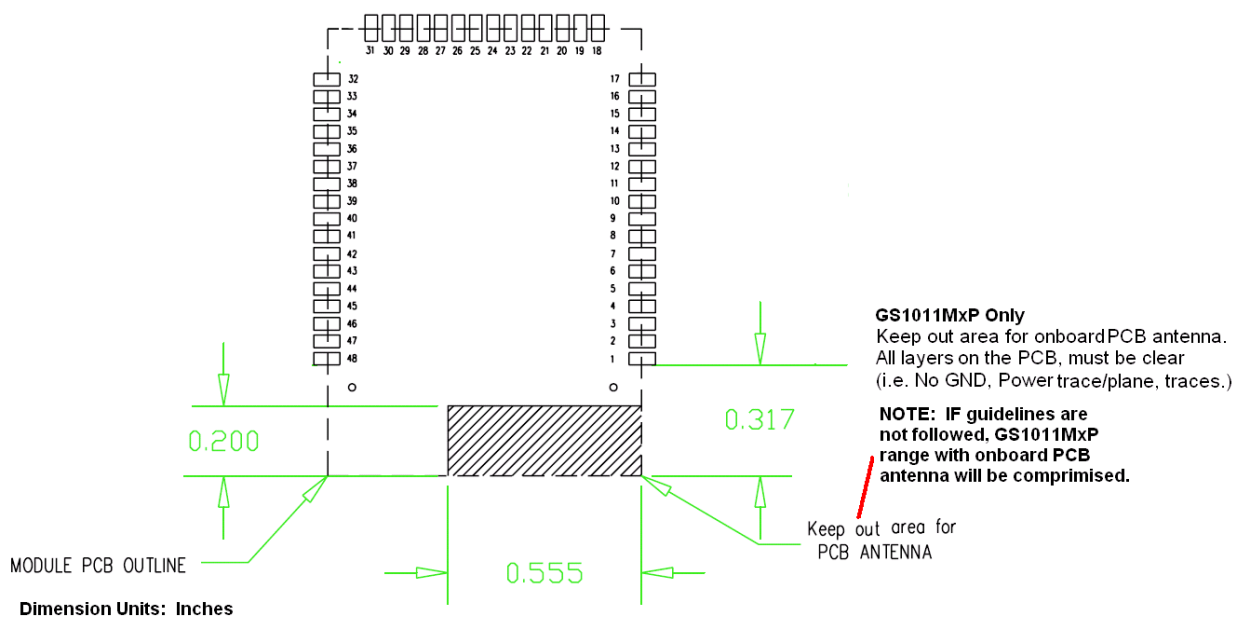

Figure 5-4: GS1011Mx module layout pad dimensions
- The PCB antenna keep out area, as shown in Figure 5-4, must be adhered to (i.e. No ground, power trace/plane, traces; all layers of PCB, in the keep out area, must be clear), or the over the air range of the GS1011MxP will be compromised.
- Keep Plastic enclosure 1cm min height above the GS1011MxP PCB antenna while maintaining the keep-out area, as shown in Figure 5-4.